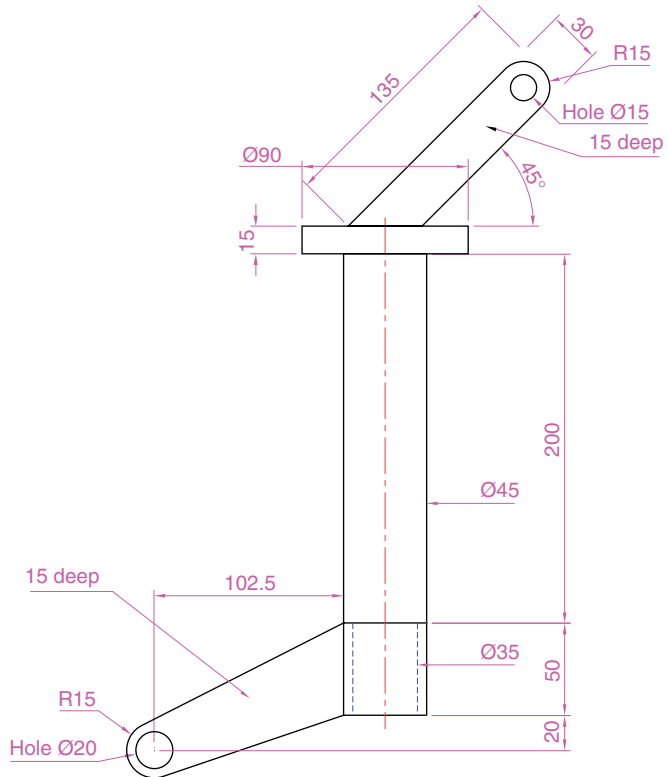

Fig. 19.18 Exercise 3
3. A partial front view of a stand is shown in an isometric drawing (Fig. 19.17). From the details given in the drawing in Fig. 19.18, construct a 3D model drawing of the stand.